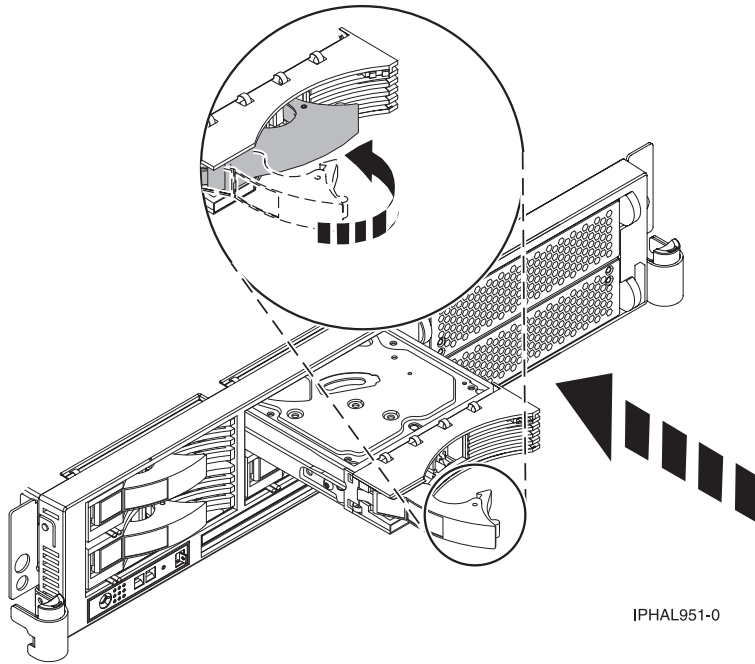

Figure 4. Installing a disk drive in model
18. Slide the disk drive into the system unit until it stops, as shown in Figure 4 on page 17.